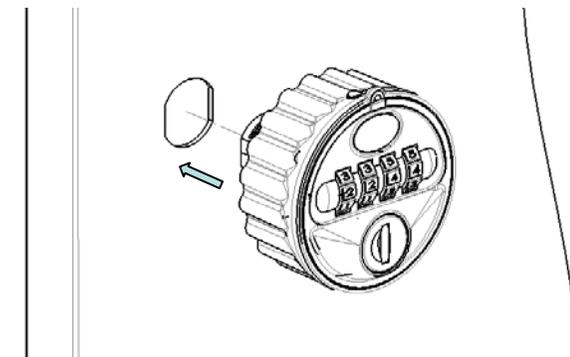

Figure 1.
2. Position the lock on the outside of the door as shown in Figure 1.